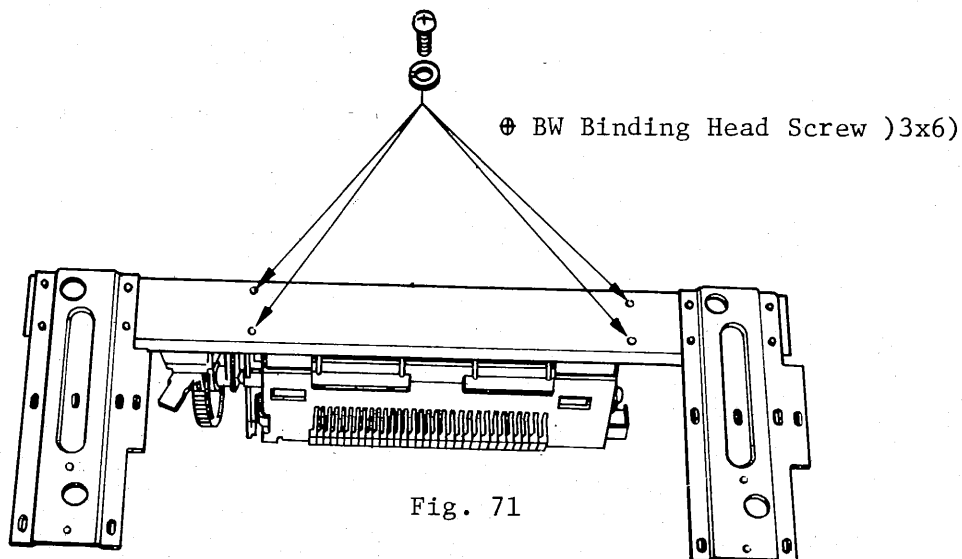

Fig. 71
- (3) Holding Pattern Unit as shown in Fig. 71, remove four $\oplus$ binding head screws (3x6) at the back of Pattern Base.